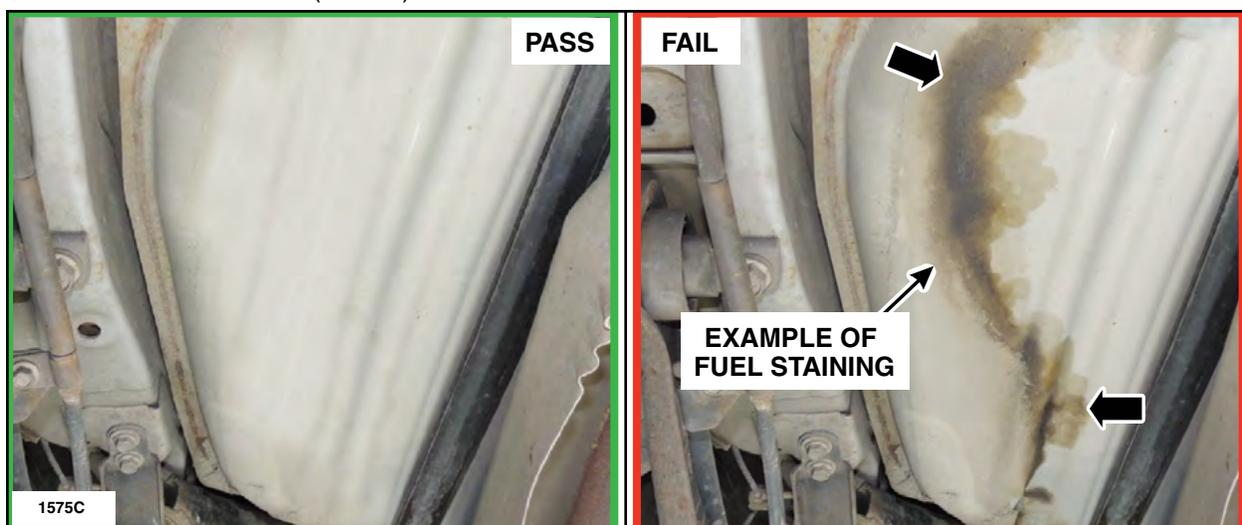

FIGURE 1
1. Inspect the fuel tank for any signs of fuel staining on the bottom of the fuel tank. See Figure 1.